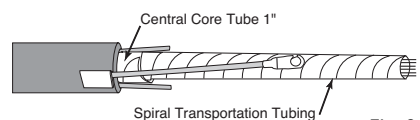

Fig. 9
- Cut the core tube 1" from the ring cut and extend with spiral transportation tubing. (Figure 9)